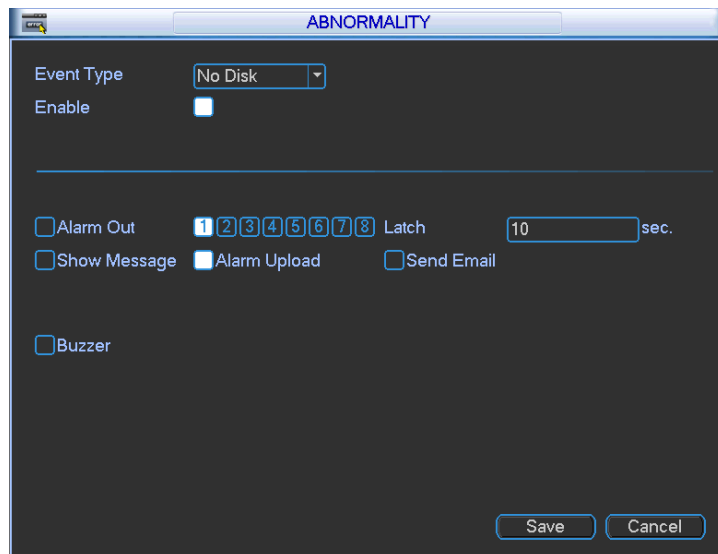

Figure 3-71
- Alarm set: Click alarm set button, the interface is shown as below. See Figure 3-71. (This interface is just like the abnormality setup). Please refer to chapter 3.7.2 for detailed information.